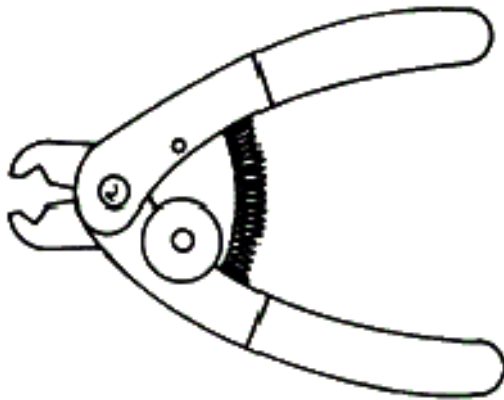

Figure 18. V-NOTCH STRIPPER
27. **V-NOTCH STRIPPER.** V-notch stripper model both strips and cuts solid and stranded copper and aluminum wire from AWG 10 to 28. Features a convenient dial-type adjustment. Its primary application is construction/maintenance production (Figure 18)